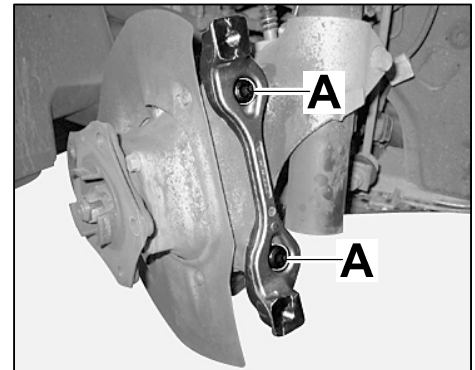

Figure 8
- 5.1 Fit adapter to brake carrier and secure with countersunk screws (M12 x 1.5 x 37) ⇒ *Figure 8-A-*.